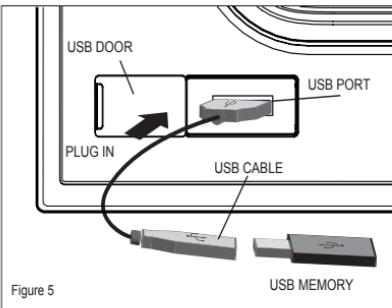

Figure 5
- Open the USB door ① and straightly plug in USB cable extension with USB memory into USB port (as shown in Figure 5). Press the MODE button to switch to USB mode then start play MP3/WMA track.